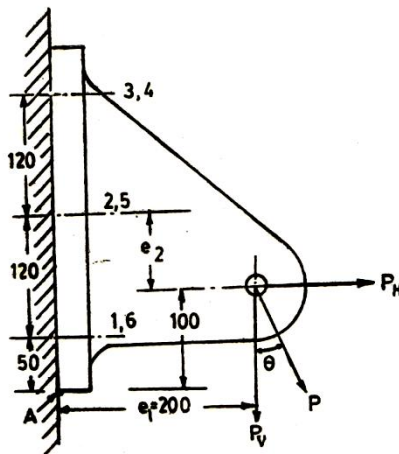

Fig. 1, Q5(b)
- (b)** A wall bracket carries an inclined load $P=10$ KN at an angle of 30° with vertical as shown in fig.1. The bracket is fixed to the vertical structure by 6 bolts spaced as shown. Calculate the diameter of the bolts if permissible tensile stress is 40 MPa. **07**